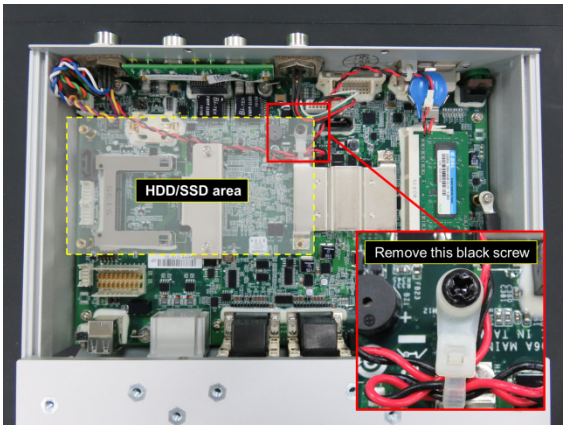

Figure 22
- 4.3.1 Use a Phillips screwdriver to remove the black screw located in the HDD/SSD area on the main board as shown in Figure 22.